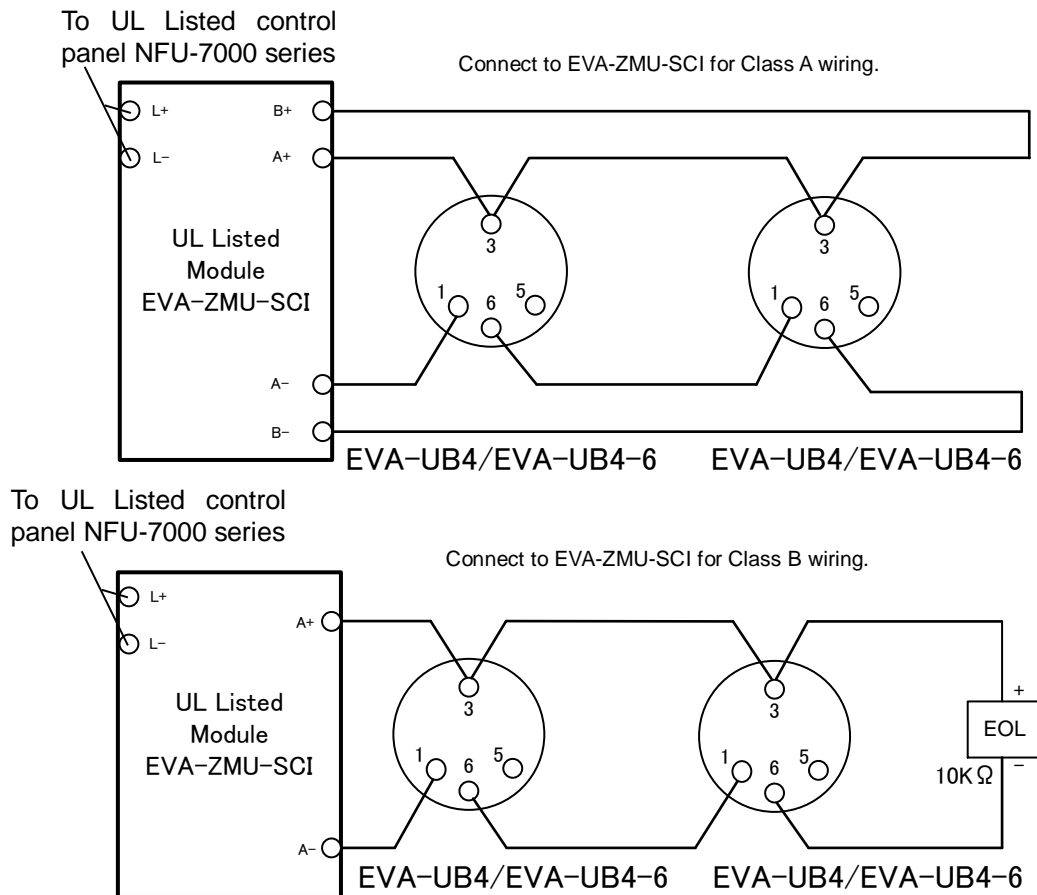

Figure 9: Wiring diagram for EVA-UB4 and EVA-UB4-6
1. Pass the field wiring through the rear center cable opening in the mounting base. Install the base to the electrical box with screws via the base mounting holes. Connect the field wiring to the base terminals, as detailed in Figure 9. Do not use looped wire under terminals (See Figure 10).